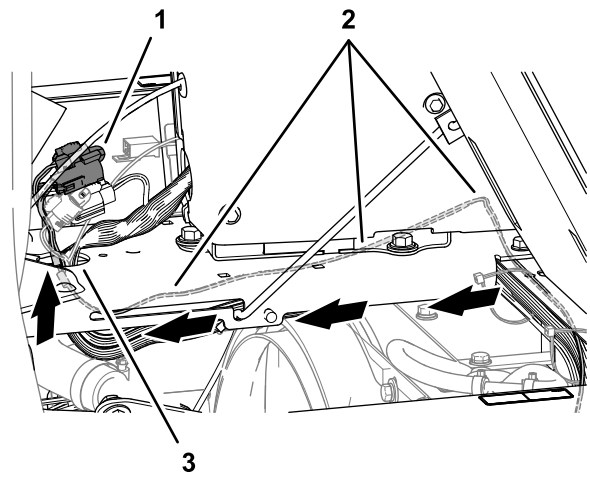

Figure 29
2. Route the ISO-CAN bus harness under the console base and along the machine wire harness (Figure 29).
3. Route the 3-pin connector (labeled To TORO CANBUS) and 3-socket connector (labeled CAN PORT A) of the ISO-CAN bus harness through the hole in the console base (Figure 29).